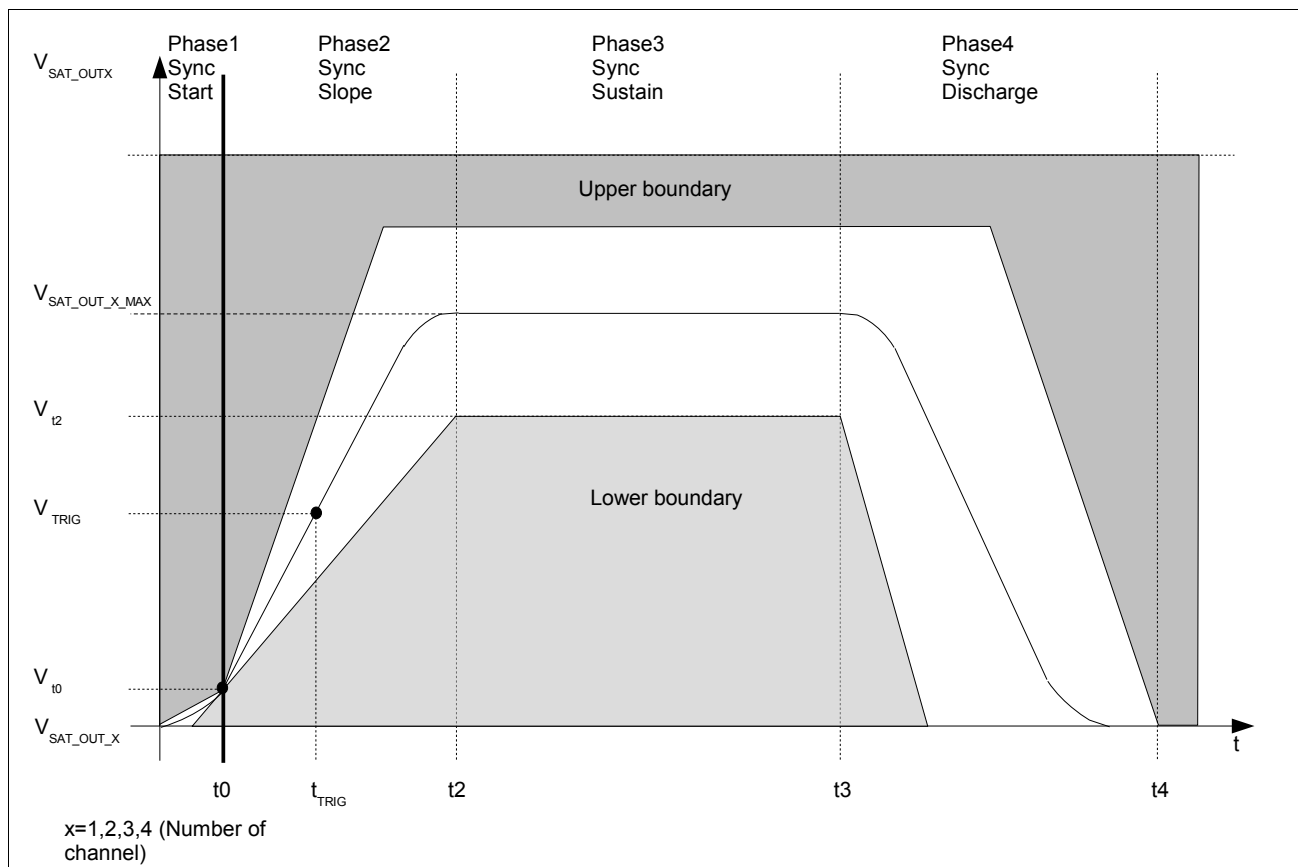

Figure 5.1-3 Synchronisation Pulse Timing
① The parameter $t_{SAT_Sync_Delay}$ will be measured from the rising edge of the SAT_SYNC signal ($t_{SAT_Sync_start}$) until the voltage at SATFDX is equal V_{t0} ($V_{t0}=VSATFDX+0.5V$). See figures 5.1-3 and 5.1-5 .
② T_{CLK}= 250 ns plus external clock tolerance
Measurement condition: $(V_{SAT_OUT_X}(@Vt2=3.5V) - V_{SAT_OUT_X}(@Vt1=0.5V)) / (t2-t1)$ See Figure 5.1-3
Each data transmission is initiated by a synchronisation signal generated by the device. The MCU will provide a trigger signal SAT_SYNC, which initiates the device to rise the voltage on the bus from typically 6.5V to typically 11.5 V (resp. 8V to 13V) slew rate controlled for a time of typically 23 μ s. The Figure 5.1-3 shows the timing of the sync pulse generation.